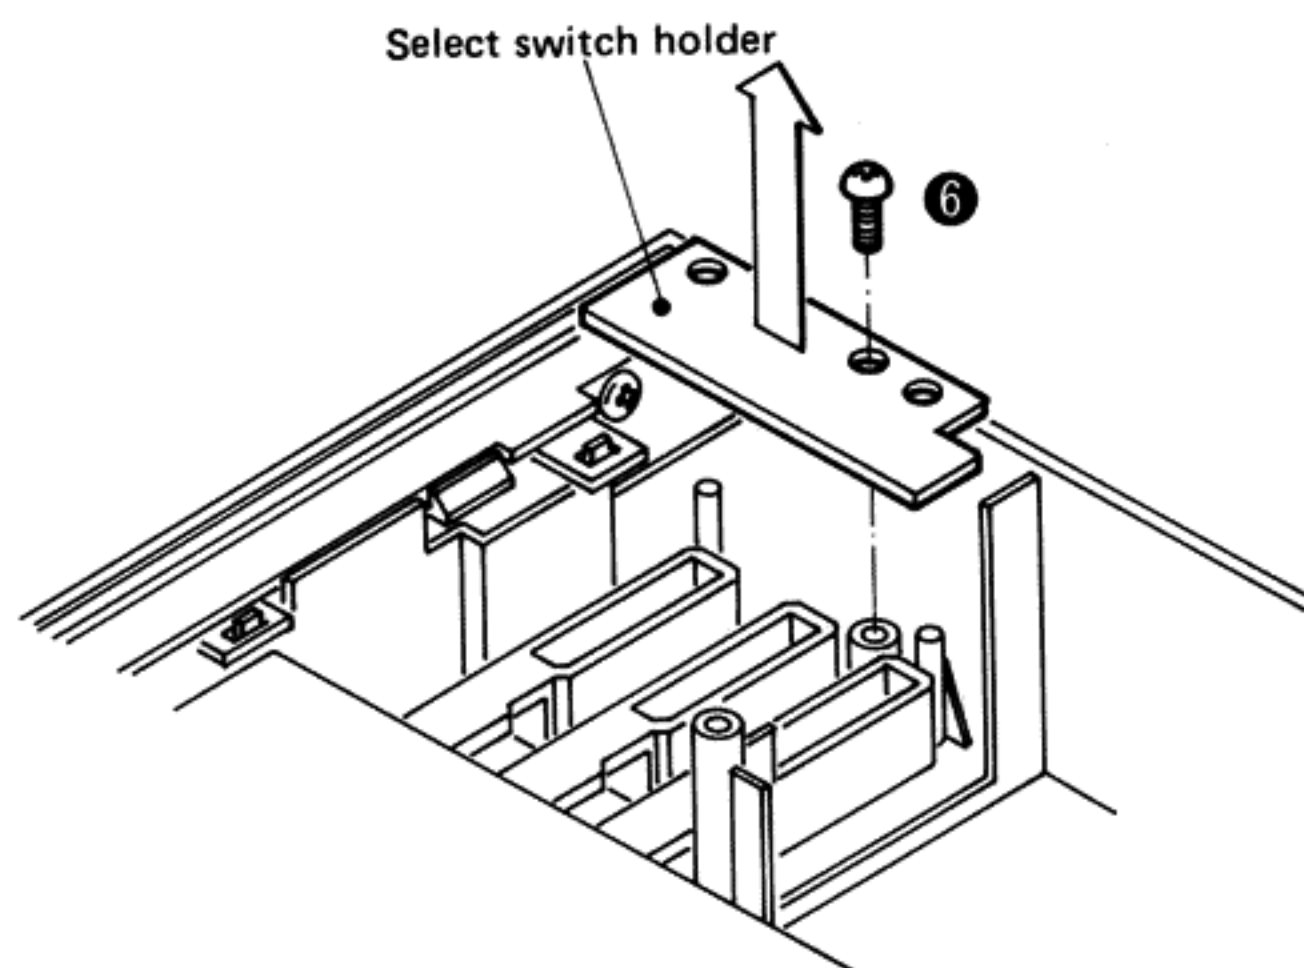

Fig. 5
2. Remove the select switch holder setscrew (Fig. 5 : ⑥) and the select switch holder. (Fig. 5)